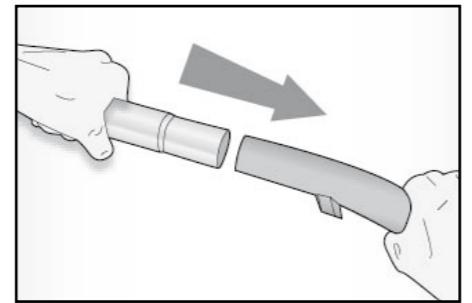

Fig. 3
- Insert the telescopic tube (12) into the handle (Fig. 3).